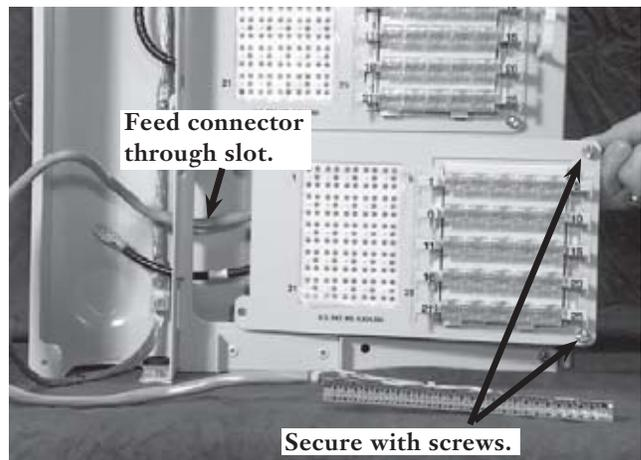

Figure 9
10.1 **Installing a Protector Block Assembly** — Remove packaging materials from the protector block assembly. Feed the modular splicing connector and ground cable through the wide slot in the splice chamber. Slide the protector module into position as shown in Figure 9. Secure the panel by tightening the screws provided.